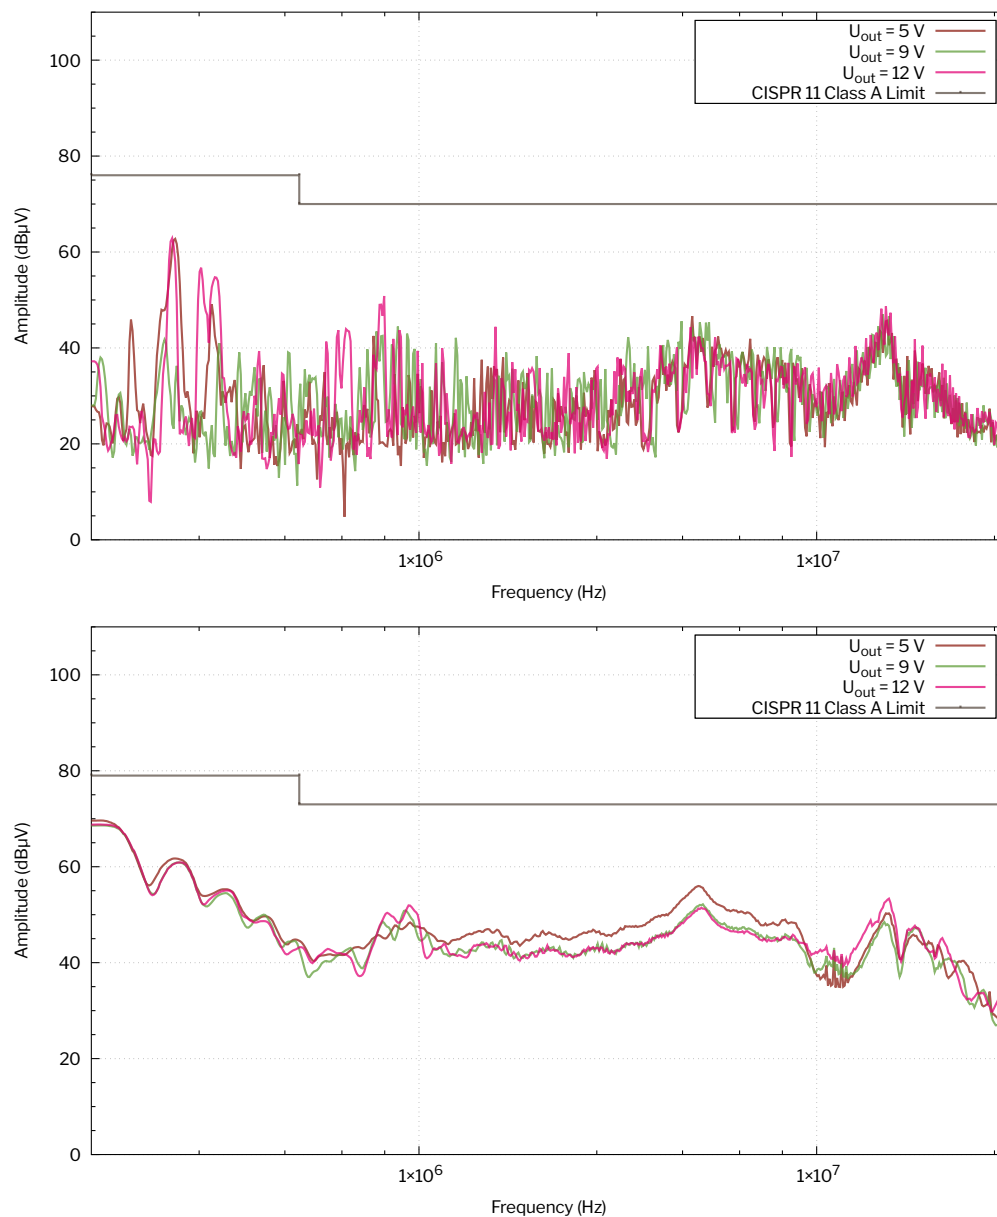

Figure 15: Input EMC emission at 230 V_{ac}, resistive load, rated current. Top: AVG, bottom: QP.
Figure 15 shows the AC input emissions with the average (AVG) and quasi-peak (QP) detectors.